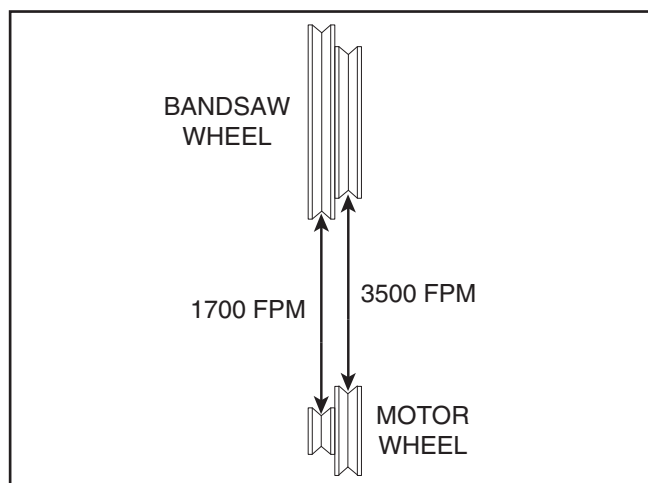

Figure 44. V-belt speeds.
3. Refer to **Figure 44** to locate the correct V-belt position for the desired blade speed.